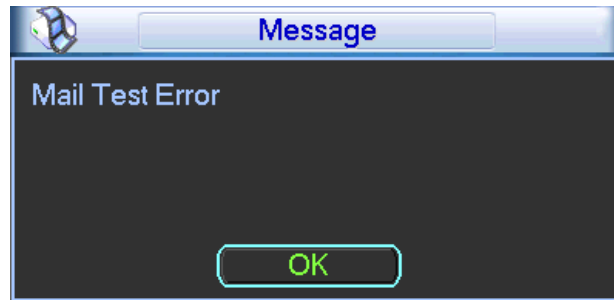

Figure 6-32
- Interval: Please check the above box to enable this function and then set the corresponding interval. System can send out the email regularly as you set here. Click the Test button, you can see the corresponding dialogue box to see the email connection is OK or not. See Figure 6-32.